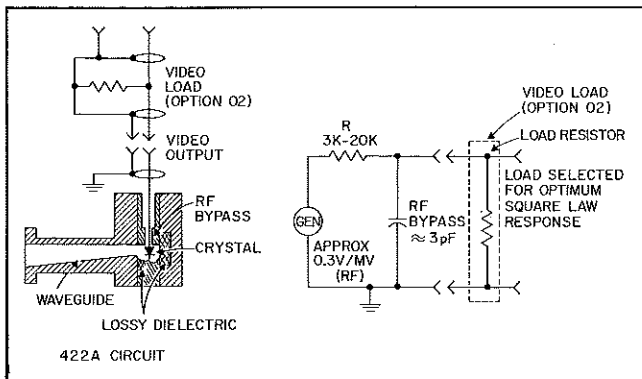

Figure 5. Arrangement of 422A and Equivalent Circuit
18. Arrangement of the Model 422A and equivalent circuit is indicated in Figure 5. The crystal may be considered as a voltage generator with an internal resistance of from approximately 3K to 20K ohms and a shunt capacitance of approximately 3 pF. The Load Resistor is selected to obtain the maximum range of square-law operation with inputs of up to half a milliwatt average.